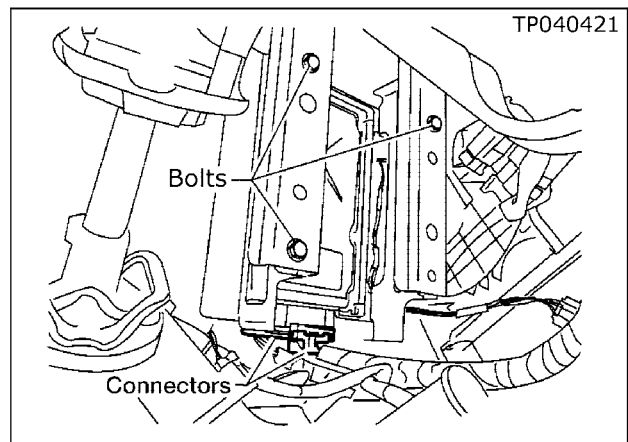

Figure 6
- Remove the 3 bolts shown in Figure 6.